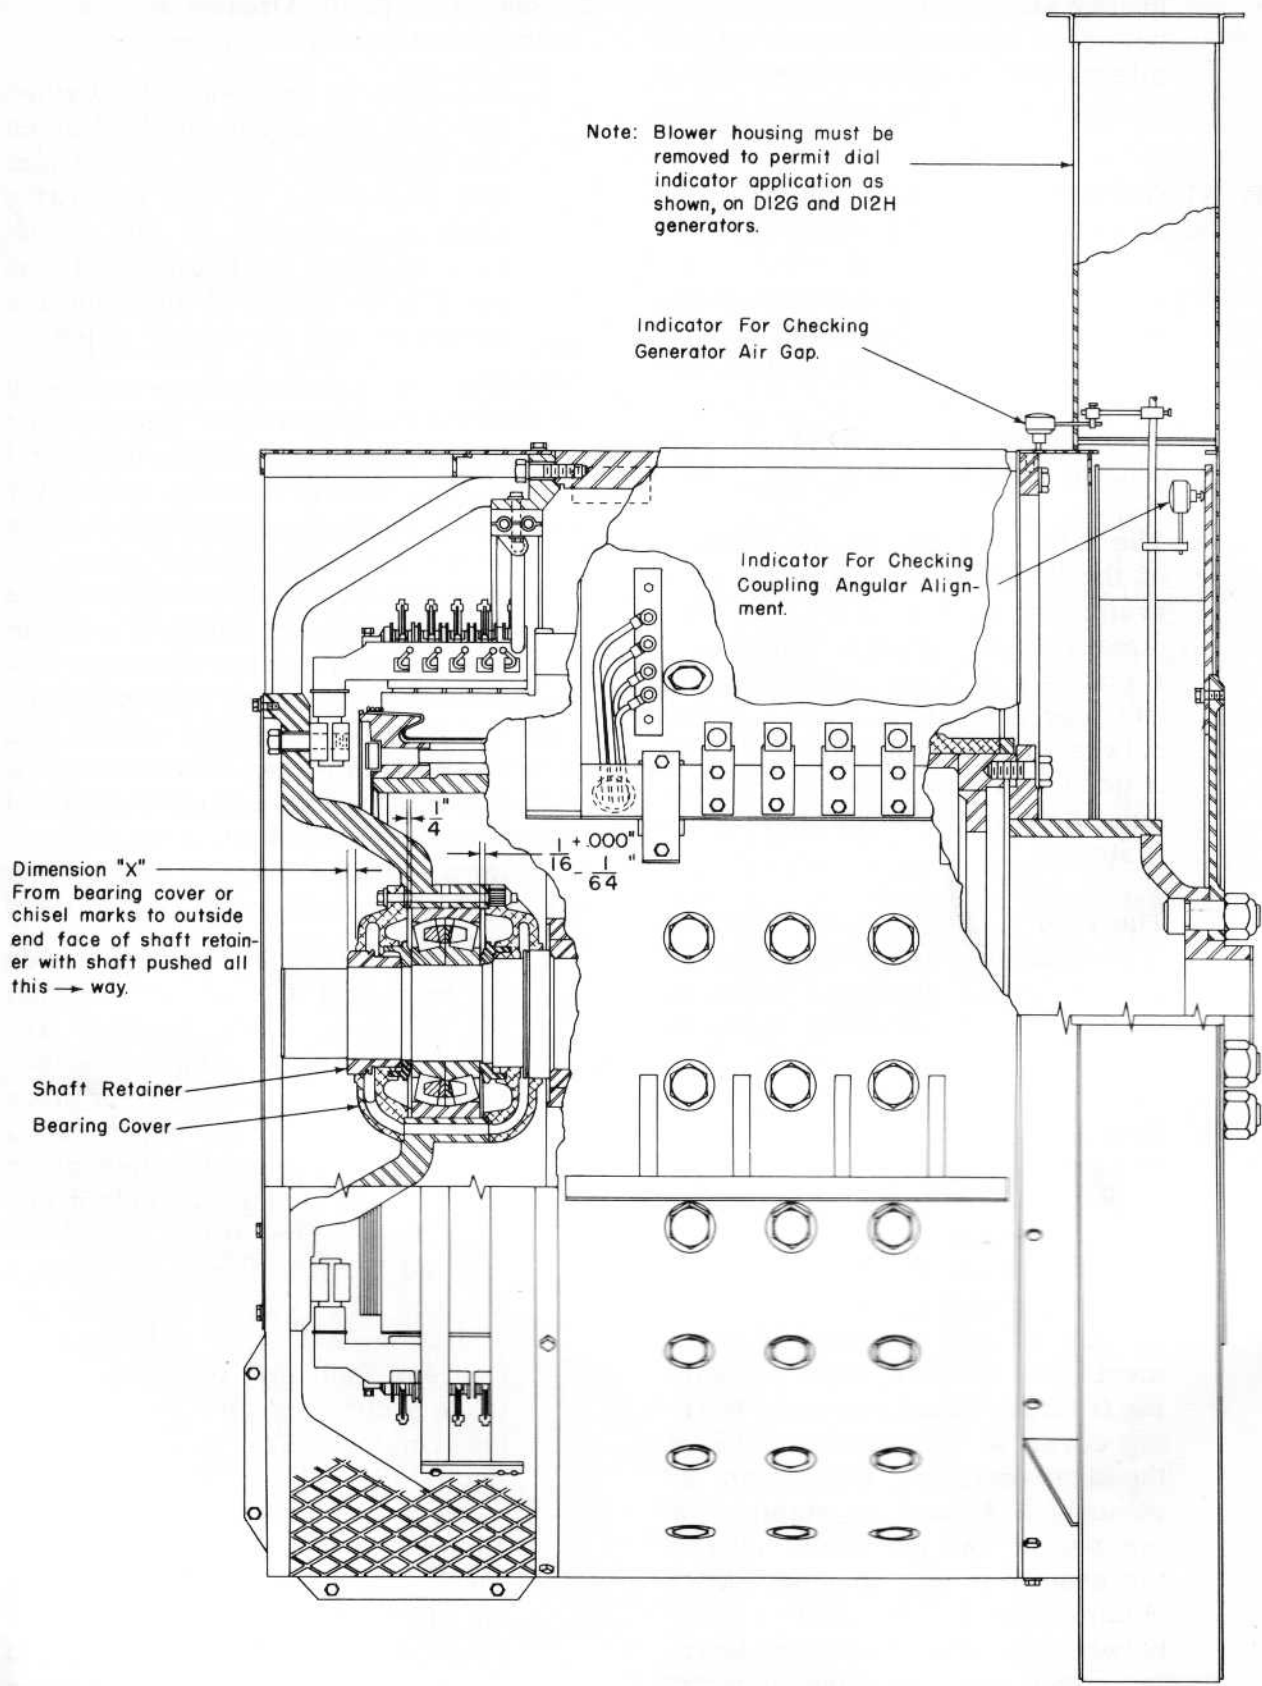

Fig. 21 - Generator Alignment Information Model D12G, D12H, D12L Generators
- a. The total end play of the bearing of the D12G, D12H and D12L generators is about $5/16"$. (The $5/16"$ dimension may change if parts are replaced.) A thrust clearance or end play of $1/16" + .000" - 1/64"$ between the bearing outer race and inside cover, as shown in Fig. 21, must be maintained on these generators.
- b. The $1/16" + .000" - 1/64"$ bearing end clearance is determined by positioning the generator frame in respect to the armature equal to a reference measurement "x," Fig. 21, plus the $1/16" + .000" - 1/64"$ clearance. Dimension "x" is determined at original generator assembly by moving the armature as far as possible toward the engine coupling end of the generator, stamping chisel marks at four locations where the bearing cover meets the retainer, then measuring from the chisel marks or bearing cover to the outside face of the shaft retainer. Dimension "x" is about $1/4"$ and is stamped on top one of the horizontal ribs of the generator end housing. After obtaining the $1/16" + .000" - 1/64"$ between the chisel marks and bearing cover face, or dimension "x" ($1/4"$) plus $1/16" + .000" - 1/64"$, the generator base bolts are tightened, in preparation for alignment.
- b. Two dial type indicators are used to check alignment. The plunger of one indicator contacts the radial surface of the fan, Fig. 21, to indicate shaft angularity. The plunger of the second indicator rides the outside surface of the ring attached to the generator frame to indicate air gap. (To permit indicator application on the ring the fan housing must be removed on D12G and D12H generators.) The indicators are mounted on supports attached to a rod screwed into a tapped hole in the adapter shown in Fig. 21. Both indicators revolve together.
- c. After clamping the indicators on the rods, and it is ascertained that the armature and crankshaft are free to rotate, coupling bolted securely, turn the armature to place the indicators in the top vertical position. Depress the indicators to make the pointer complete one turn, then secure it and adjust the knurled bezel to locate the pointer at zero (0). Check indicator installation that it is satisfactory. Depress indicator button and release to check pointer action. Turn the armature 180° counterclockwise (facing the rear of the generator) using a turning bar or jack, then return to the starting point, to check indicator operation. When the indicators are returned to their original position, the pointer should again indicate zero (0). If pointer does not return to zero, further positioning or securing of the indicator is necessary.